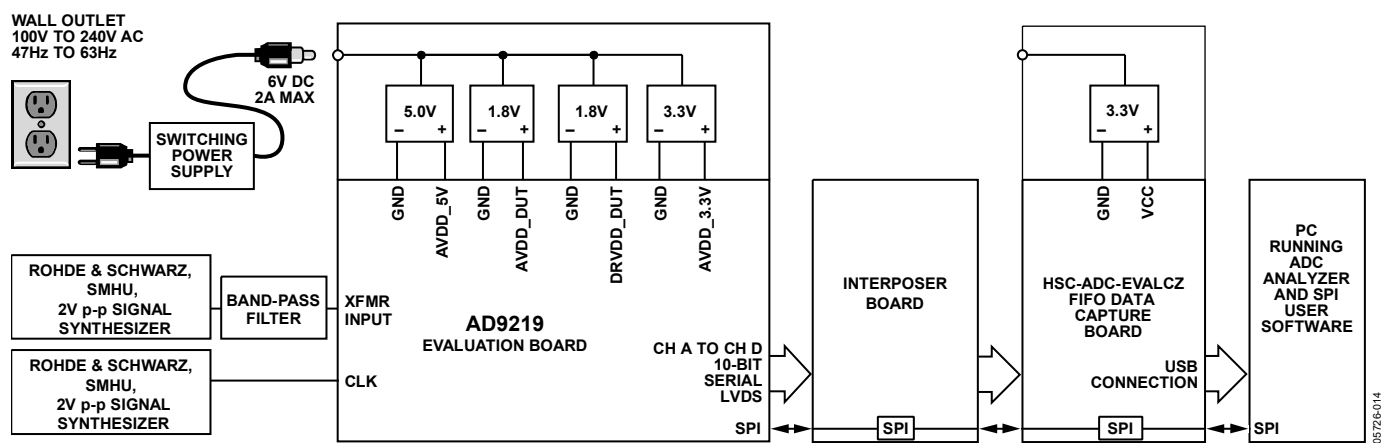
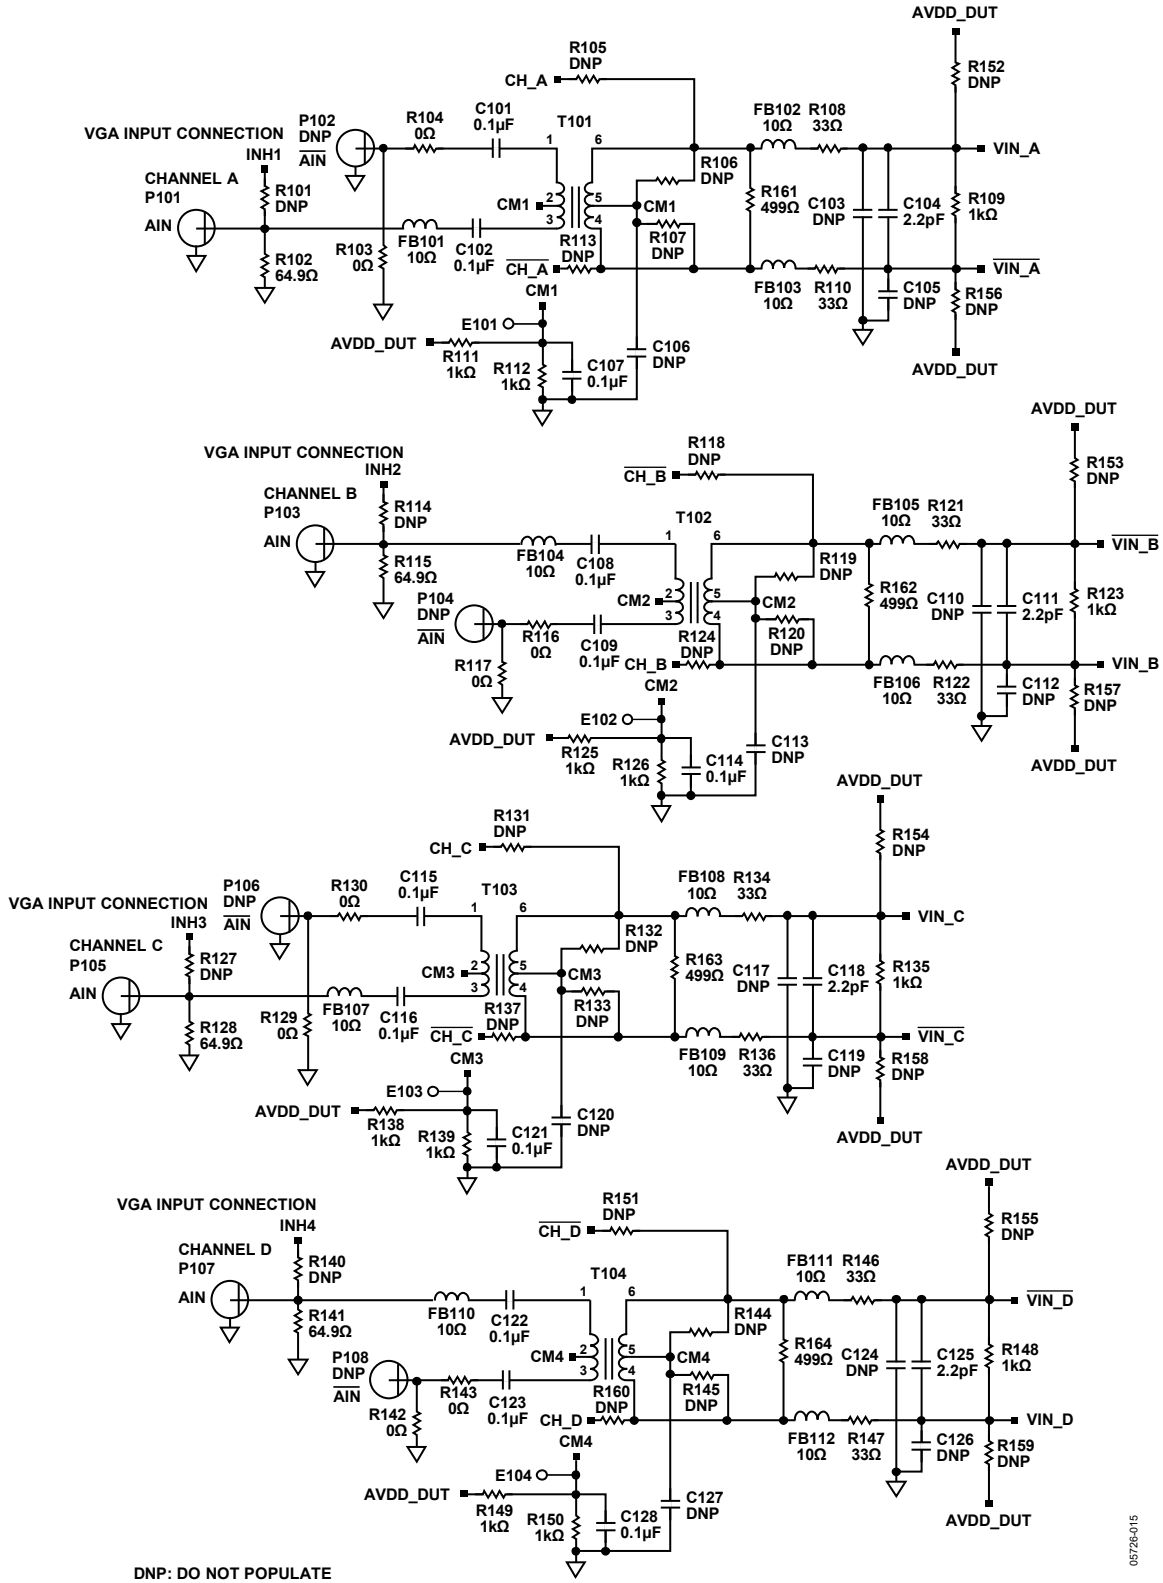
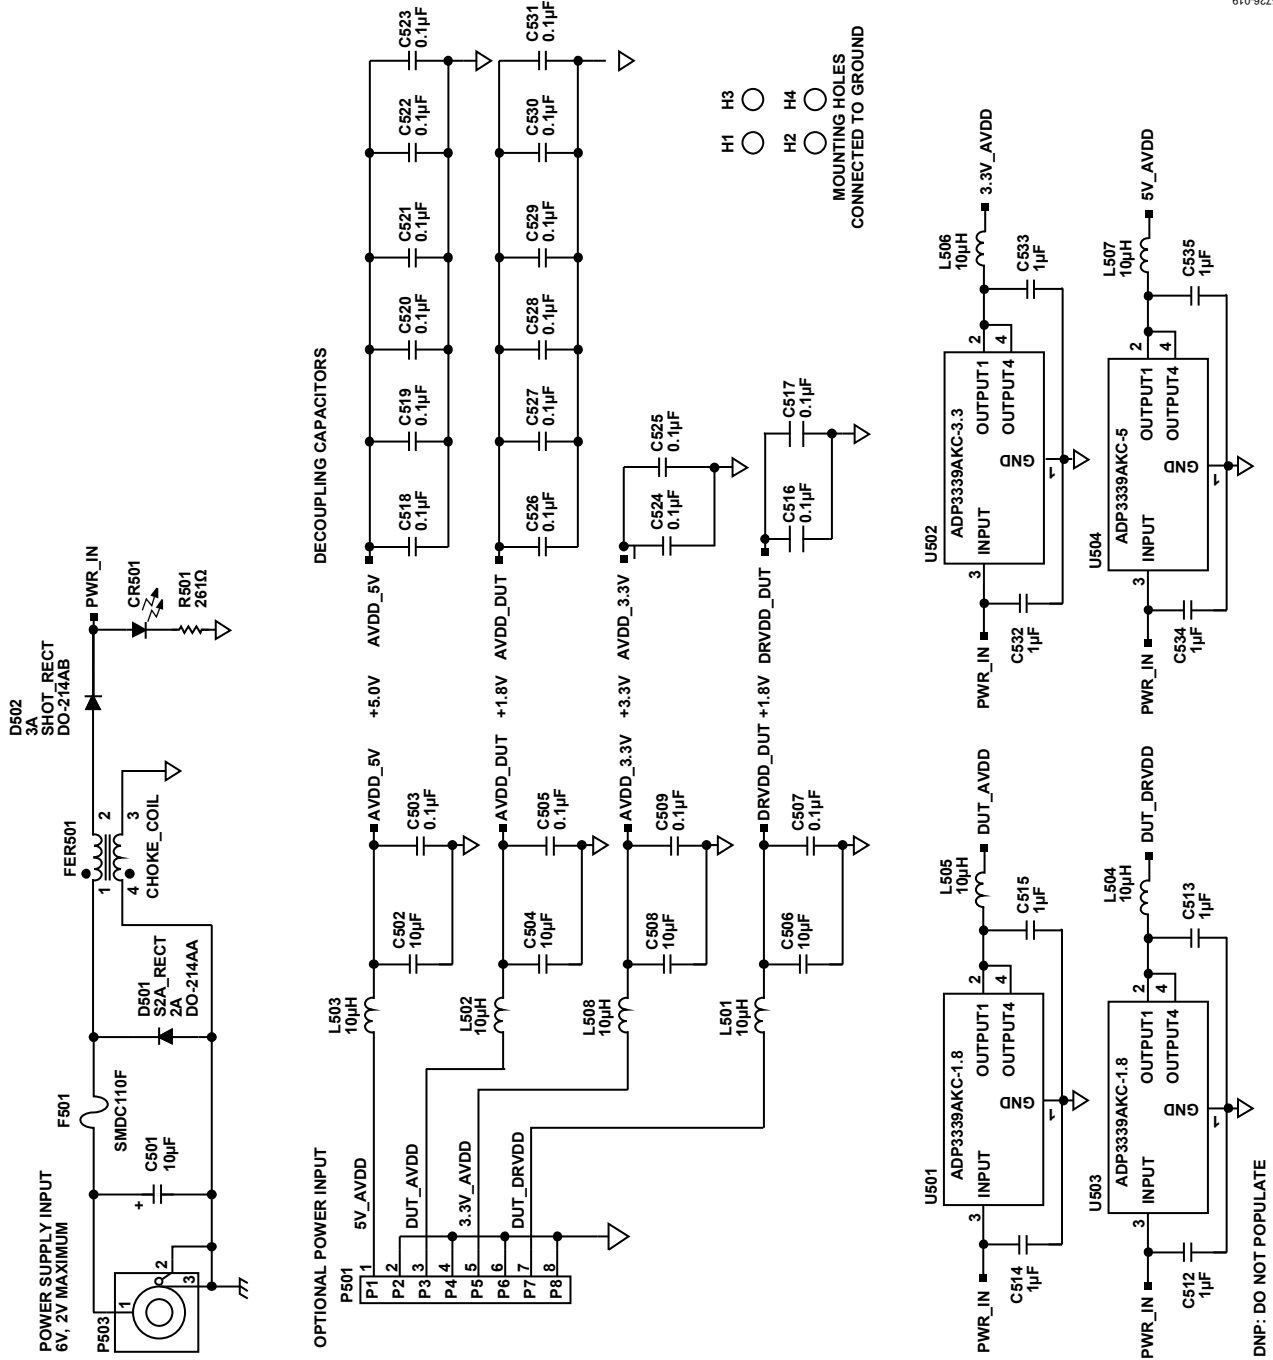

Figure 71. Evaluation Board Connection
Figure 73. Evaluation Board Schematic, DUT Analog Inputs
Figure 77. Evaluation Board Schematic, Power Supply Inputs
The AD9219 evaluation board provides all of the support circuitry required to operate the ADC in its various modes and configurations. The converter can be driven differentially using a transformer (default) or an AD8332 driver. The ADC can also be driven in a single-ended fashion. Separate power pins are provided to isolate the DUT from the drive circuitry of the AD8332. Each input configuration can be selected by changing the connection of various jumpers (see Figure 73 to Figure 77). Figure 71 shows the typical bench characterization setup used to evaluate the ac performance of the AD9219. It is critical that the signal sources used for the analog input and clock have very low phase noise ( $<1$  ps rms jitter) to realize the optimum performance of the converter. Proper filtering of the analog input signal to remove harmonics and lower the integrated or broadband noise at the input is also necessary to achieve the specified noise performance.
See Figure 73 to Figure 81 for the complete schematics and layout diagrams demonstrating the routing and grounding techniques that must be applied at the system level.
- **D + x, D - x:** If an alternative data capture method to the setup shown in Figure 73 is used, optional receiver terminations, R206 to R211, can be installed next to the high speed backplane connector.